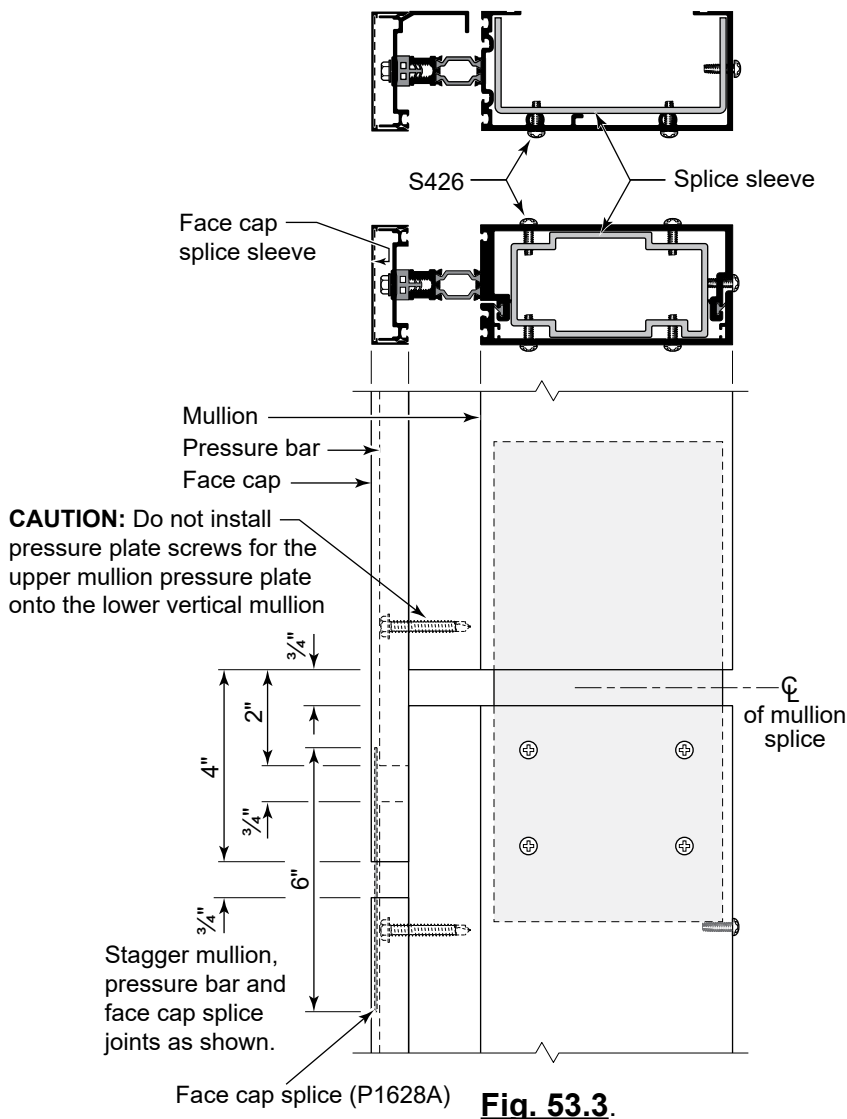
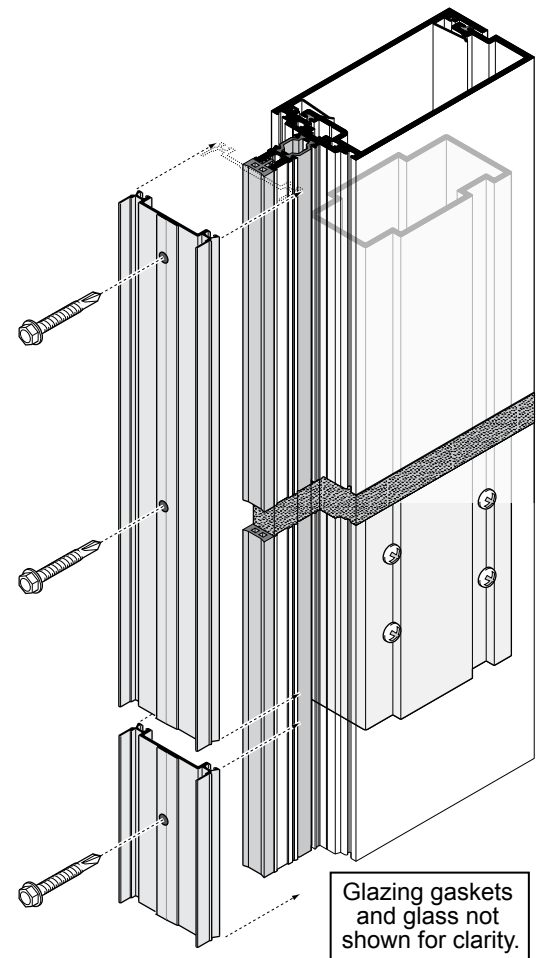

Fig. 53.3
Fig. 53.4
L. Seal the horizontal pressure plates to the vertical face covers, tooling the sealant into the joint. See **Fig. 53.3** and **Fig. 53.4**.